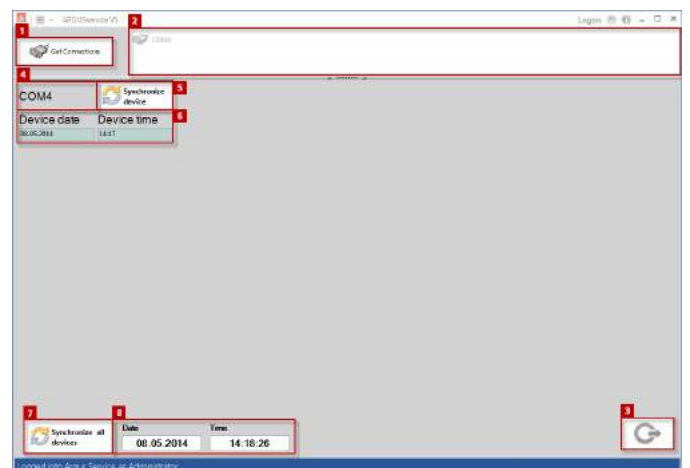

Figure 22: CODAN ARGUSservice Date & Time Control
Use the Date & Time Control (Figure 22) to set the date and time on one or more devices. The date and time on the selected devices will be set to the system time of the PC. (The following enumeration refers to the numbered items in Figure 22).
5. Synchronize device: This button sets the date and time on the device according to the date and time values shown in 6 of Figure 22.
7. Synchronize all devices: This button sets the date and time on all selected devices according to the date and time values shown in 6 of Figure 22.
2. Ensure that the correct date and time is shown in 6 of Figure 22. It is essential that the time zone, time and date on the PC is set correctly to the location where the device will be used.